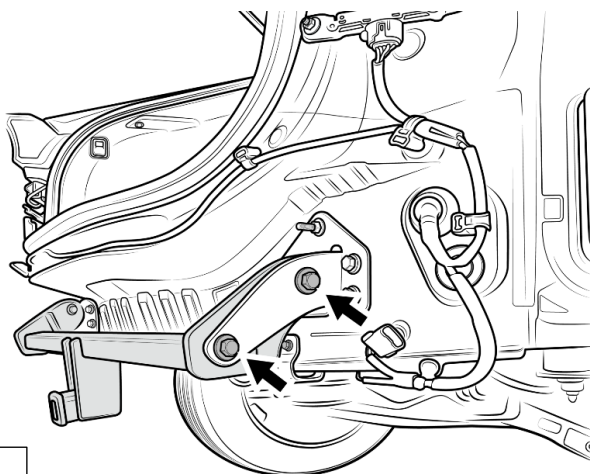

Fig 12-1
(b) Install (2) 14mm bolts through the framebrackets into the hitch bracket weld nuts on both the LH and RH sides (Fig. 12-1).